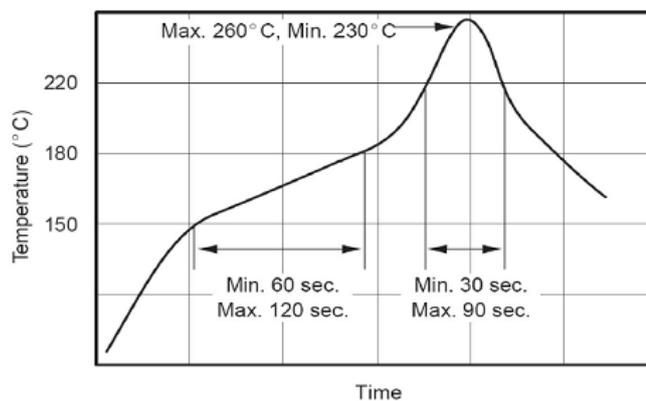

Figure 4: Recommended Reflow Profile for Sn-Ag-Cu Paste
- All of Qorvo's WLCSPs are qualified at 260 °C reflow with MSL1. Typical temperature profiles for the Pb-free (Sn-Ag-Cu or Sn-Ag) solder and the corresponding critical reflow parameters are shown in Figure 4 and Table 3.